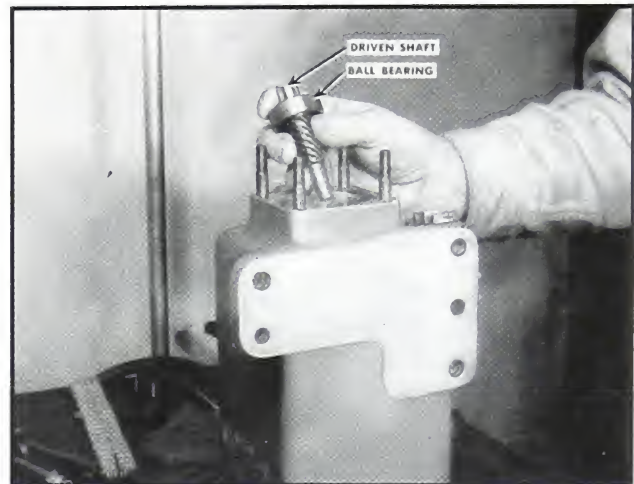

Fig. 5-383. Replace driven shaft
8. Insert driven shaft assembly and drive in position. Rotate drive shaft during this operation to insure engagement. Fig. 5-383.